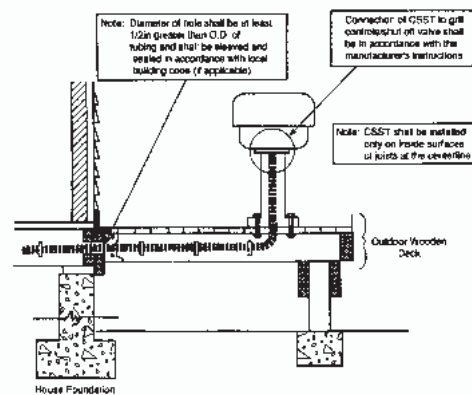

Figure 4-17
2. Permanently mounted grills located on decks shall be connected with the *TracPipe* system as shown in figure 4-17 and in accordance with this guide. The outdoor portion of the piping shall be supported against the side of any of the inside deck joists. If the elevation of the deck is below the top of the foundation, any exposed piping shall be protected using water-tight non-metallic conduit.
3. Permanently mounted lights located on decks shall be connected to the piping system the same as permanently mounted grills shown in figure 4-17 and in accordance with the manufacturer's instructions.